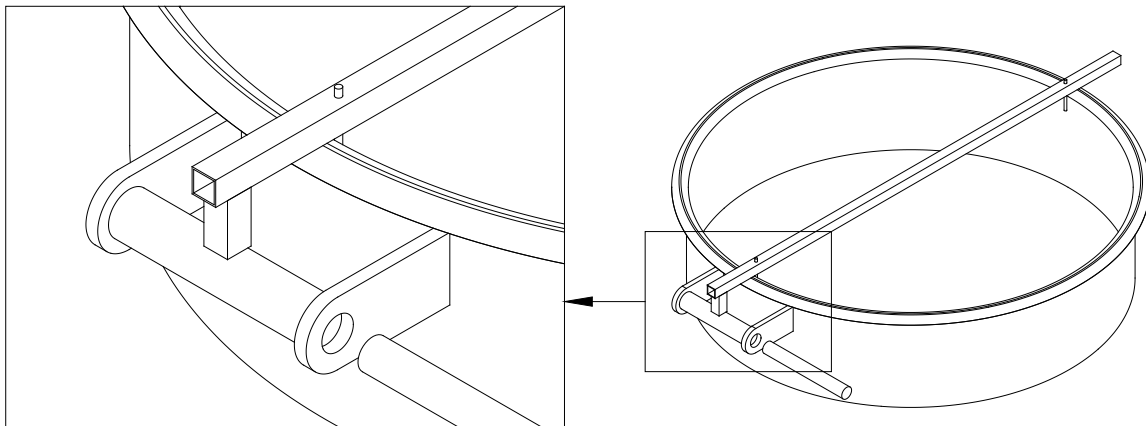

Figure 1
3. Place a 1" diameter bolt or pin that is at least 7 1/2" long through the hinge brackets and weld fixture (Figure 1) to hold the brackets in place. If the position of the bracket causes an interference with the ring or the car roof, grind or cut the excess material to make the hinge bracket fit.